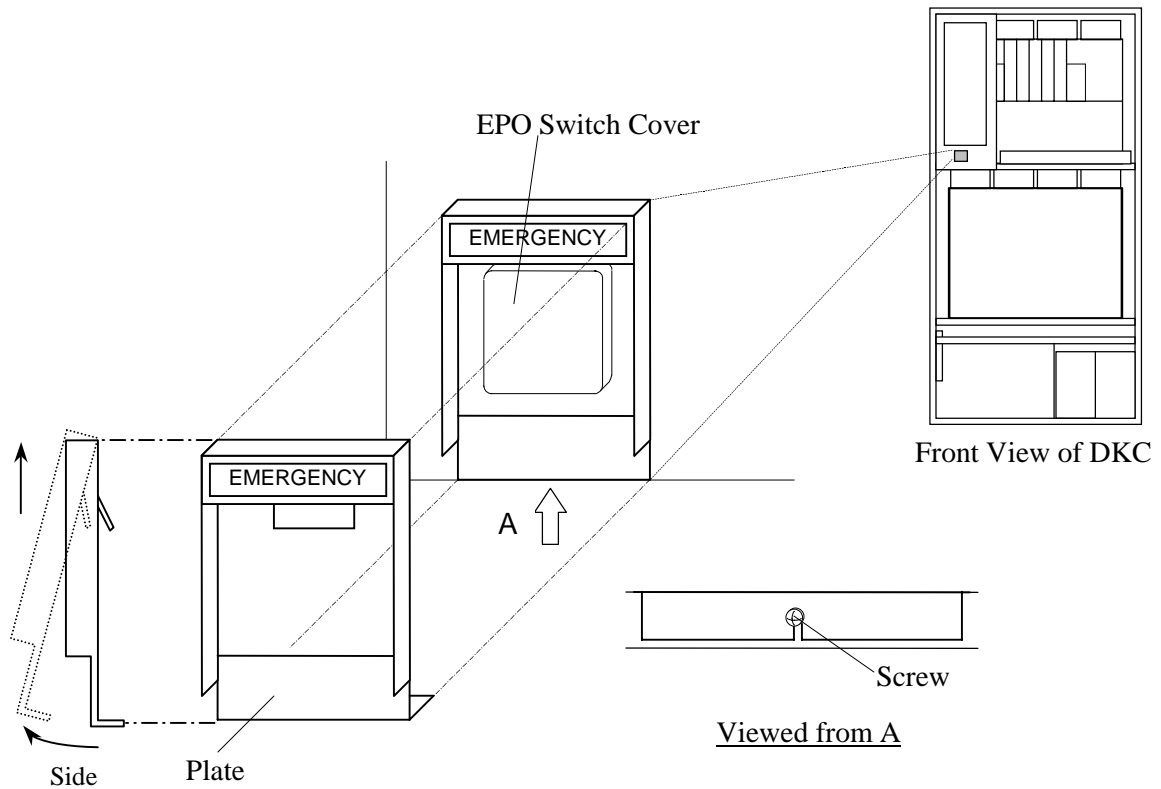

Fig. T2-2 Removal of Plate
- e. Attach the plate and fasten the screw. Refer to Fig. T2-2.